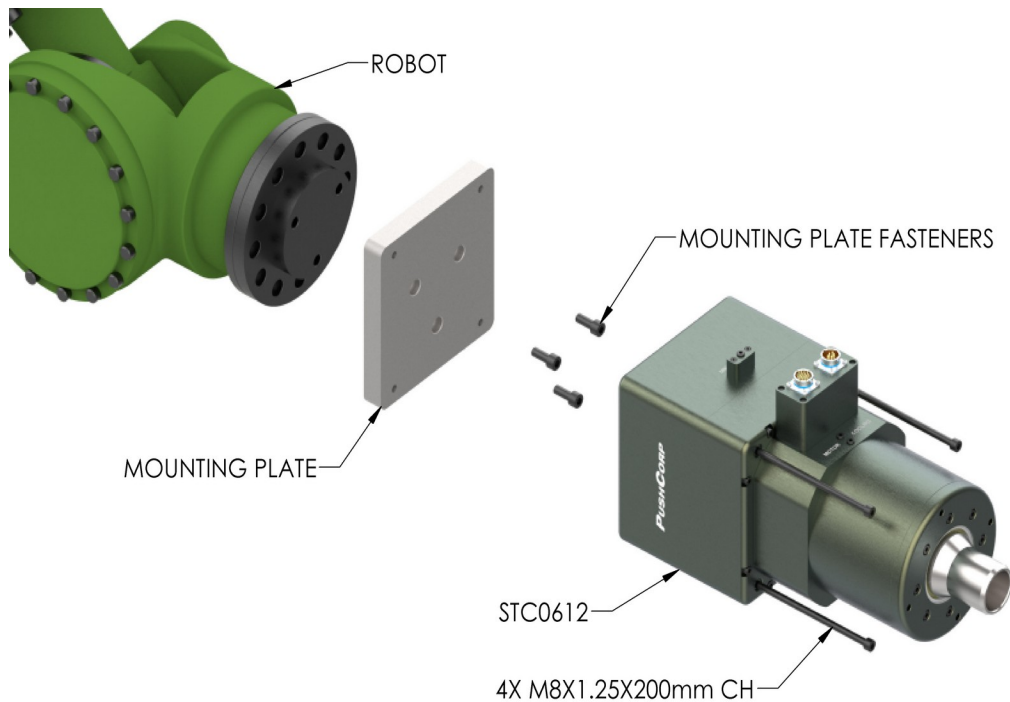

Figure 4: STC0612 Direct Mounting
To mount the 0612 Series, first attach the Intermediate Mounting Plate to the Robot Mounting Flange or to the Breakaway Clutch, per the manufacturer’s specifications. Once the Mounting Plate is secured, place the 0612 Series against the Intermediate Mounting Plate and install (4) four, M8x1.25 Socket Head Cap Screws. (See Figure 4) Tighten the fasteners to the torque specified in Section 4.0.